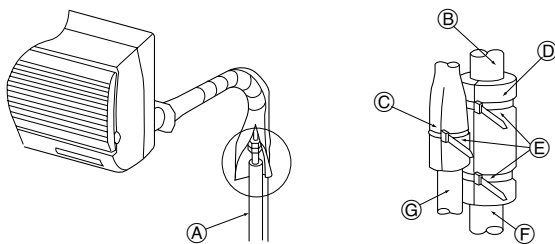

Fig. 4-4
4.4. Refrigerant piping (Fig. 4-4)
- Wrap the pipe cover ③ that is attached to the gas pipe and make sure that the connection join is not visible.
- Use the bands that are provided ④ to tighten both ends (15–20mm, 19/32 to 25/32 inch) of each pipe cover ③.